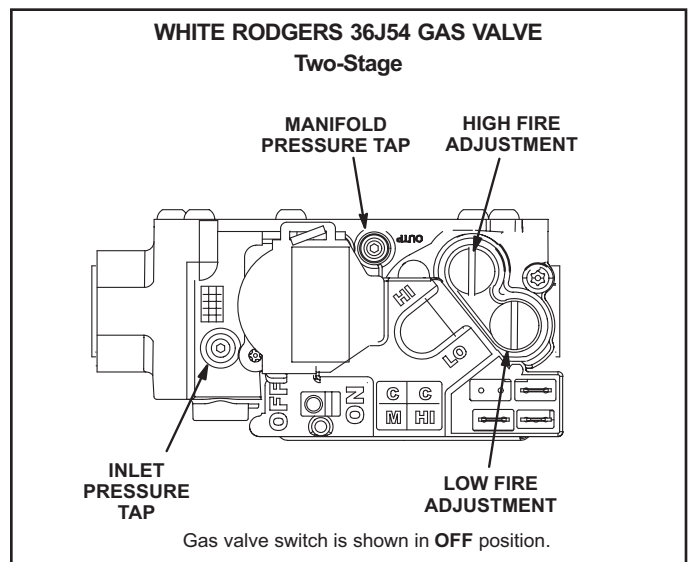
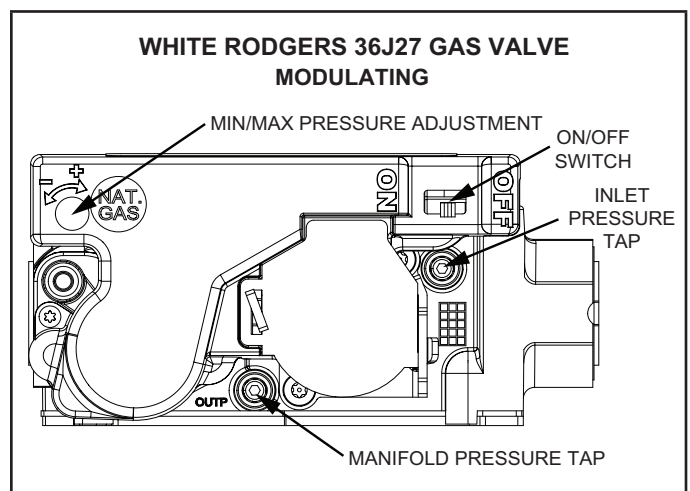

Figure 34
Figure 35
5. Move gas valve switch to **OFF**. See Figure 34 and Figure 35.
6. Wait five (5) minutes to clear out any gas. If you then smell gas, **STOP!** Immediately call your gas supplier from a neighbor's phone. Follow the gas supplier's instructions. If you do not smell gas, go to the next step.
7. Move gas valve switch to **ON**. See Figure 34 and Figure 35.